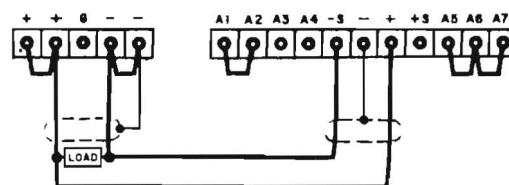

FIGURE 3-3 REMOTE SENSING STRAPPING PATTERN
- a. Turn-off power supply and arrange rear terminal strapping pattern as shown in figure 3-3. The sensing wires will carry less than 10 ma and need not be as heavy as the load wires. It is recommended that sensing and load wires be twisted and shielded. (If shield is used, connect one end to power supply negative terminal and leave the other end unconnected.)